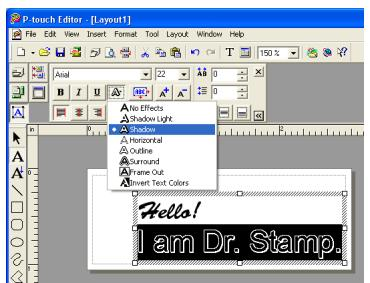

figure 6
- ① With the Text Input tool, highlight the text to be changed.
- ② Select the desired style effect from the Text Properties (see figure 6).